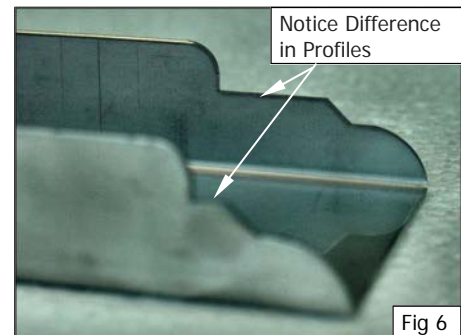

Fig 6
- a. Remove all trivet supports from top of appliance. Note orientation of trivet support when removing. Trivet support front end side rail profiles are different from rear end side rail profiles. (See Note shown at Item a, in 'Re-Fitting the Components to the Range' on following page and Fig 6).
**NOTE:** It is imperative that trivet supports are correctly re-fitted to appliance to ensure that trivets locate correctly and sit flush and level. NOTE that trivet support front end side rail profiles are different at either side (Refer to Fig 6) and only one of side rails seat into cut-out in range, whereas rear end of trivet support side rail profiles are same and have 2 locating cut-outs.